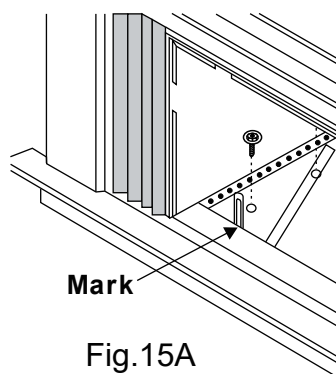

Fig. 15A
1. Hold each support bracket flush against outside of sill, and tight to bottom of cabinet as shown in Fig. 15A. Mark brackets at top level of sill and remove.